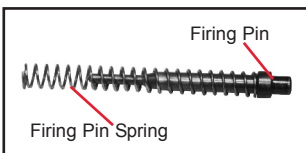

Figure 29
1. Place the Firing Pin Spring onto the Firing Pin. See Figure 29.